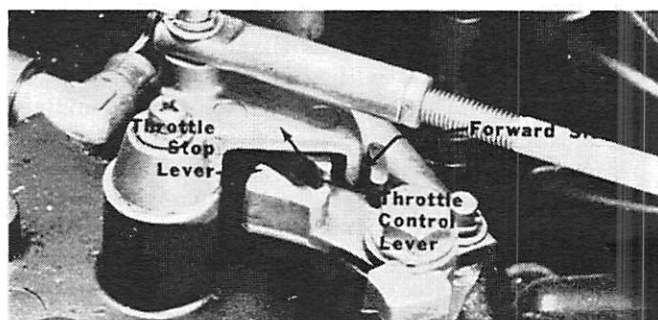

Figure 16. Throttle Control Lever Centered
7. Move control handle to forward position and be sure that detent spring is in forward notch of shift control lever plate in bottom cowl and that throttle control lever is centered in forward slot of throttle stop lever. (Figure 16)